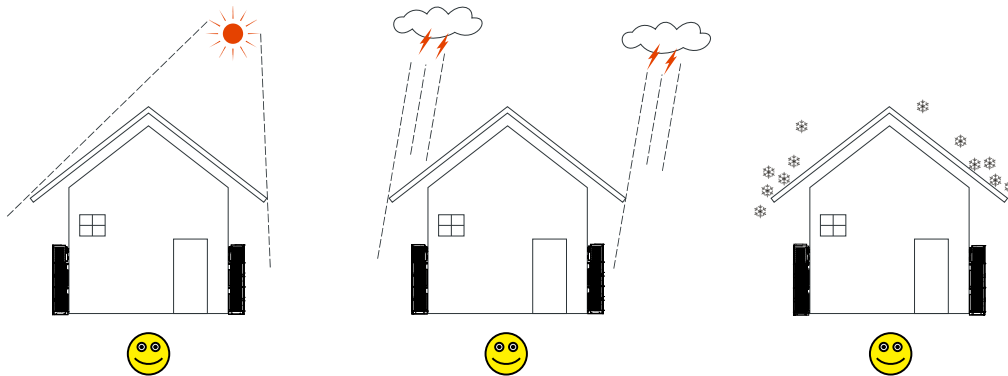

Figure 3-2 Recommended installation environment
2. It is suggested to install the iHome-S-HD1H01 product under shade as shown in Figure 3-2 to max the iHome-S-HD1H01 product lifespan and efficiency.